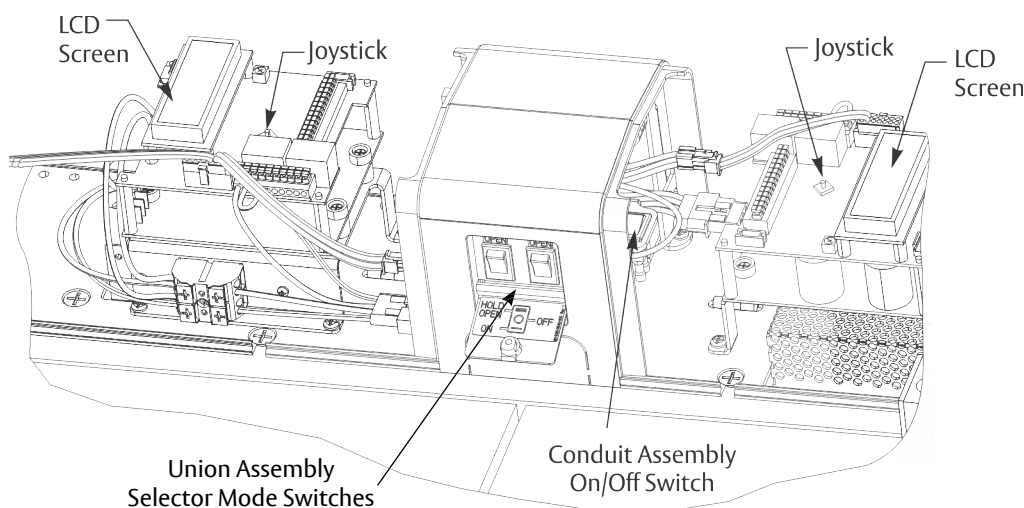

Figure 27 View From Floor
1. Open door on union assembly and place each selector mode switch in 'OFF' position. (Figure 27)
2. Turn On/Off switch to 'OFF' position on conduit assembly. (Figure 27)
- To scroll through menu items, push up or down on joystick. (Figure 27)